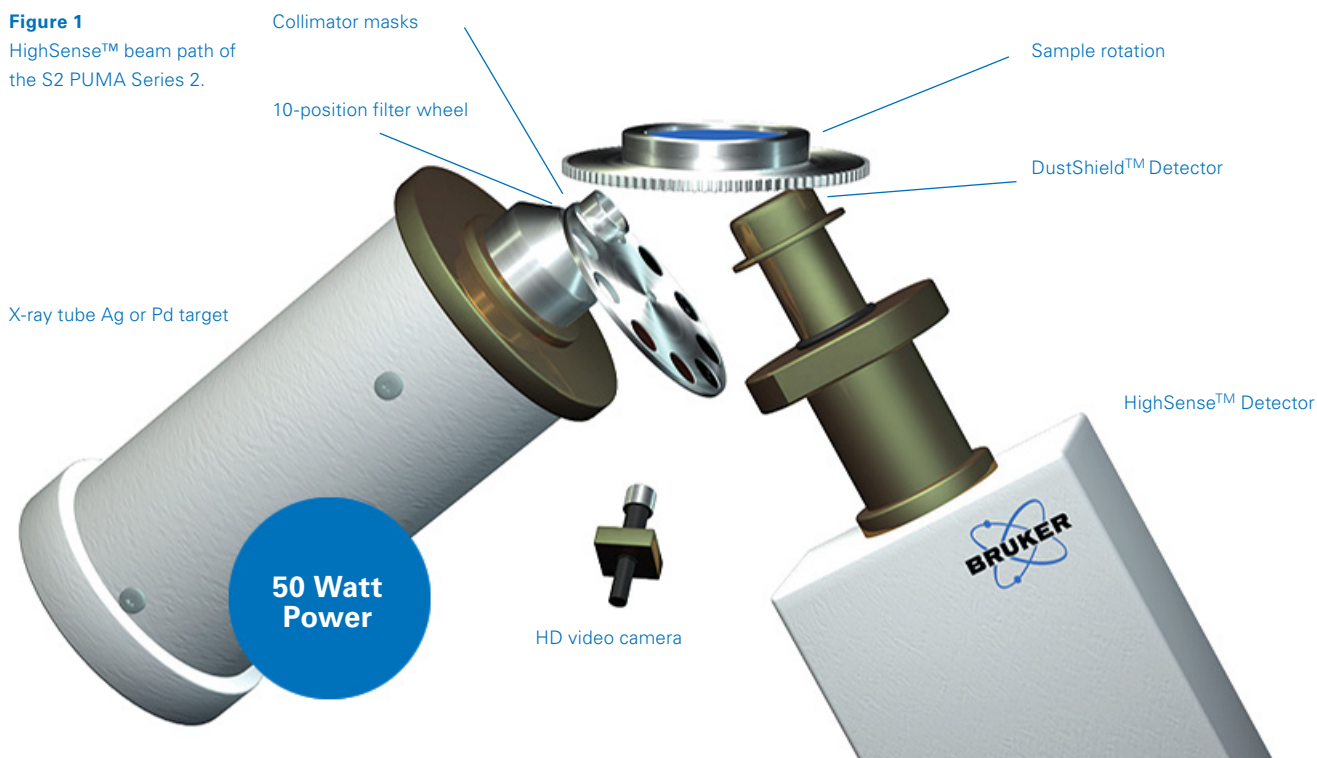

Figure 2
Ten grams of the calibration standards and the unknown samples were weighed out and pulverized using a tungsten-carbide (WC) ring and puck mill for 3 min. The samples were then pressed at 30 tons for 30 s using a 40 mm die and 1.0 g of wax binder. The result are robust and homogeneous pellets (Figure 2) that can be measured in vacuum mode for the best detection of lighter elements (Al and Si) combined with the lowest cost of operation (no Helium!). The preparation is simple and reproducible. It can be performed with any grinder and pellet press.